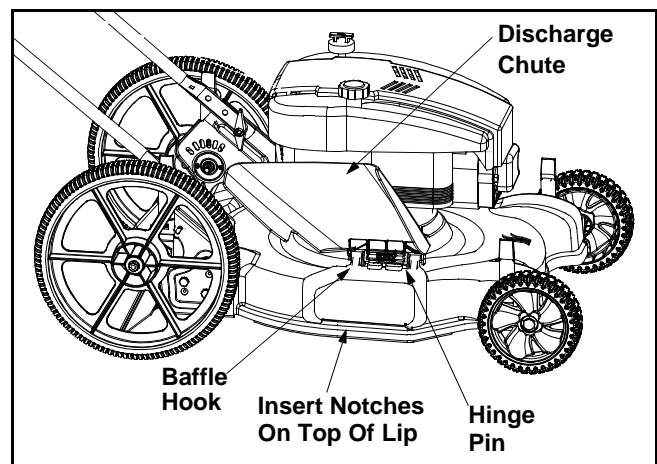

Figure 8
- Lift up side discharge chute and insert the mulching baffle so that the notches at the bottom of the baffle sit firmly on the lip of the deck opening. See Figure 8.